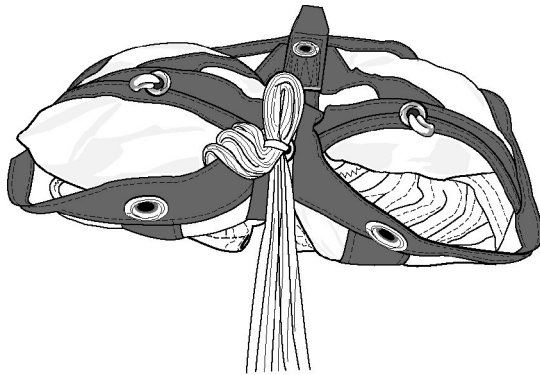

Figure 15. First Suspension Line Group Stow
c. Make the first (of 3) stows by forming a loop in the suspension line group, wrap pull up cord around the suspension line group and pull it through the middle locking loop until 1 to 1 1/2-in. protrude past the loop (Figure 15).